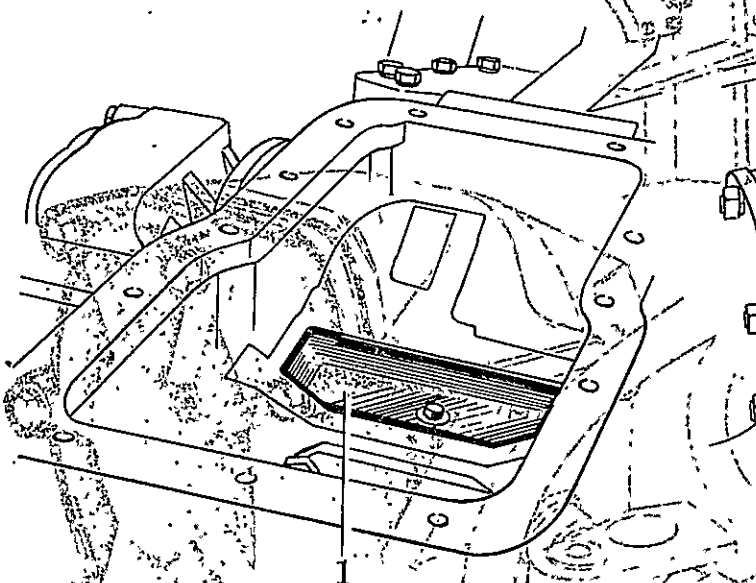

Fig. 4-6. Driving spiral bevel pinion bearing oil bowl
1). Through the opening on the sloping wall of the rear axle housing, the lubricating oil splashed up by the driven spiral bevel gear flows into the oil bowl 1 on the bearing housing bracket of the driving spiral bevel pinion, then, through the small hole on the oil bowl, flows into the bearing 7309 for lubrication. So the small hole must be always kept open. (Fig. 4-6)